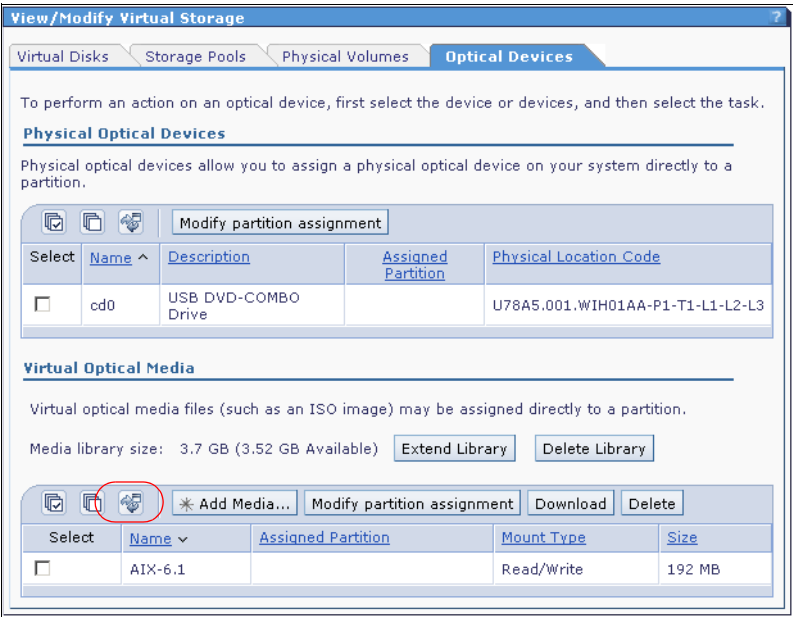

Figure 6-10 Media library - newly created media
9. After closing the browser window of the add media dialog, you return to the view shown in Figure 6-10. The new media is already listed here. Clicking **Refresh** updates the size information during the copy operation.